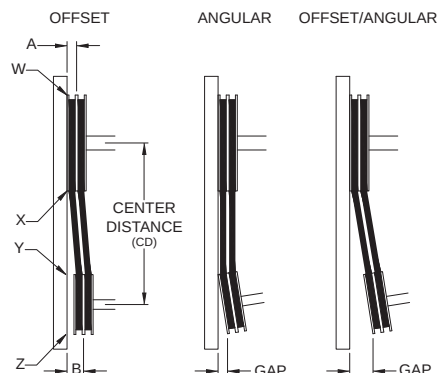
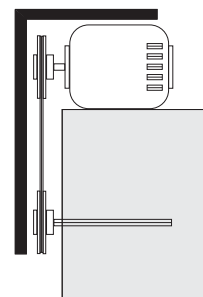

Figure 2
Figure 3
d. Ensure pulleys are properly aligned. Refer to Figure 2.
Figure 2 indicates where to measure the allowable gap for the drive alignment tolerance. All contact points (indicated by WXYZ) are to have a gap less than the tolerance shown in the table. When the pulleys are not the same width, the allowable gap must be adjusted by half of the difference in width. Figure 3 illustrates using a carpenter's square to adjust the position of the motor pulley until the belt is parallel to the longer leg of the square.